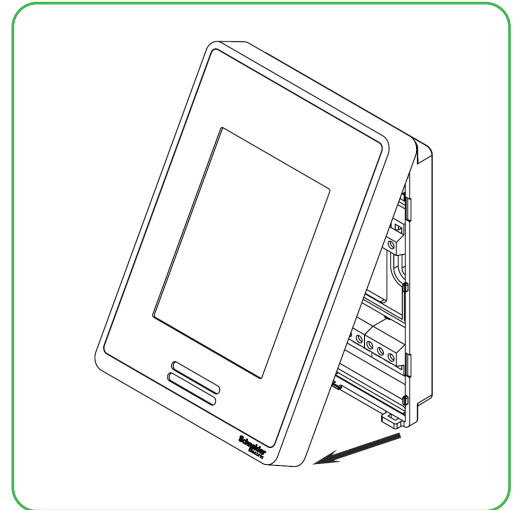

Figure 1 Open cover
2. Open unit by pulling on bottom side of Room Controller (Figure 1).